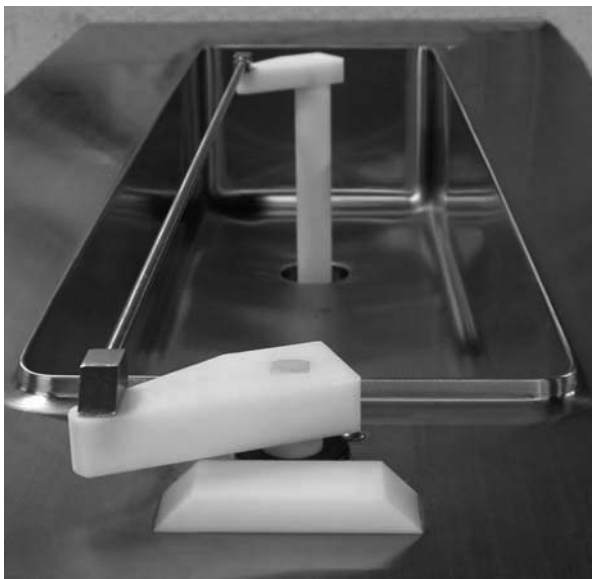

Figure 3-3 Flow Control Assembly
- B. Place the tapered end of the flow valve into the hopper drain hole with the arm pointing towards the left. Connect the flow control rod to the flow valve and the flow valve arm (Fig. 3-3).